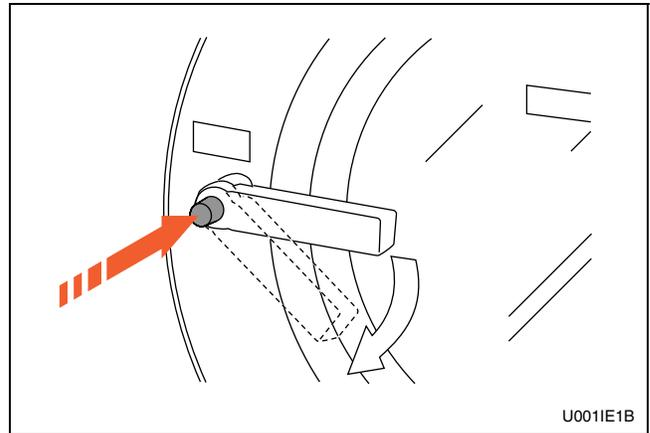
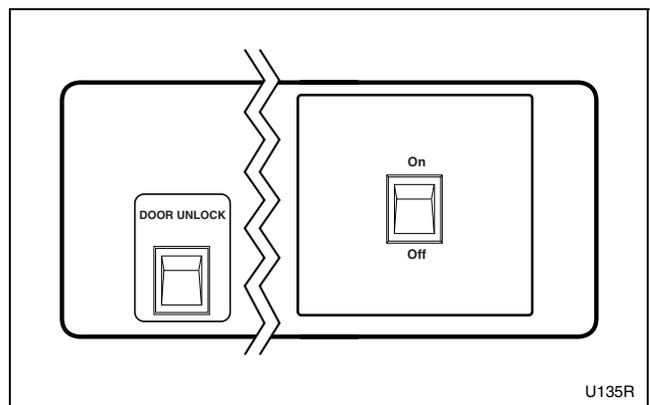

Figure 3
Figure 4
For non-coin models: Turn on the On/Off switch on the front panel to the On position. Refer to Figure 4.
2. Push button and turn handle clockwise to open. Refer to Figure 3.
For non-coin models: Press and hold the DOOR UNLOCK button on the left side of the control panel while performing the above step. Refer to Figure 3 and Figure 4.